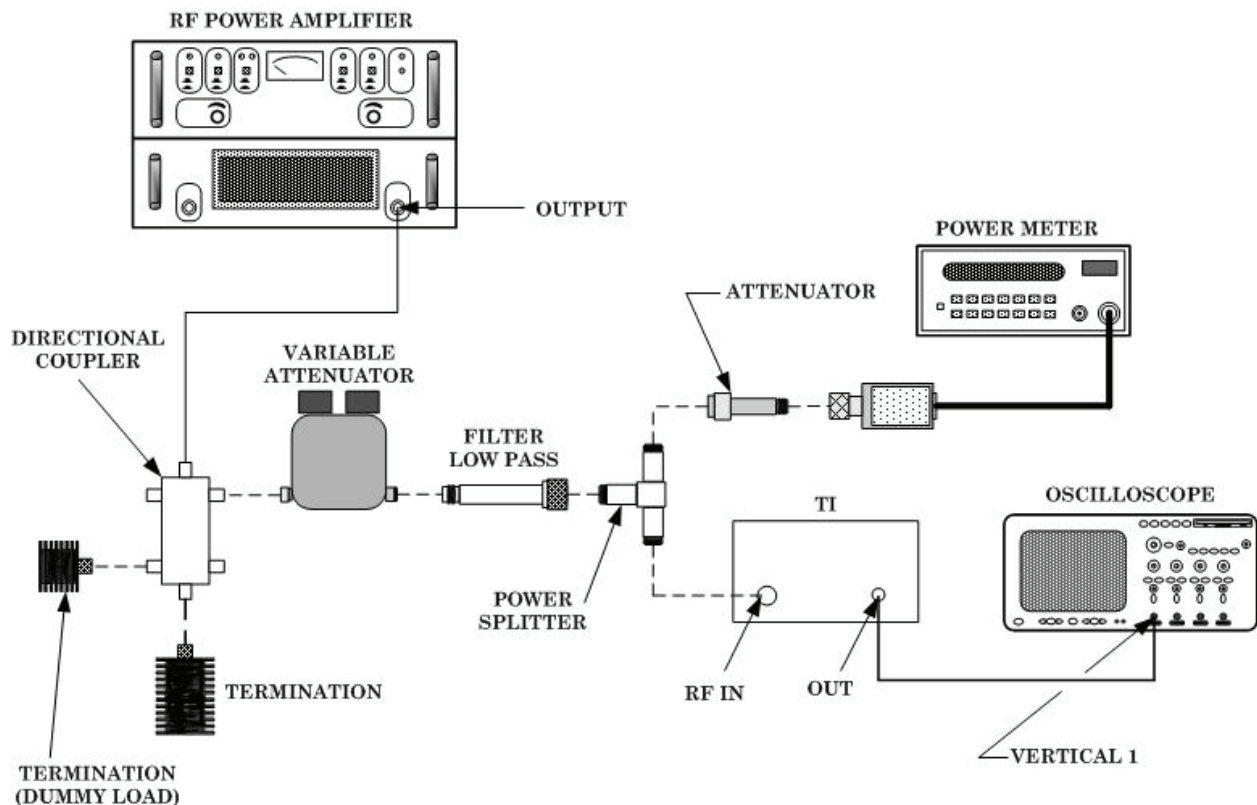

Figure 1. Meter calibration - equipment setup.
- (1) Connect equipment as shown in figure 1.